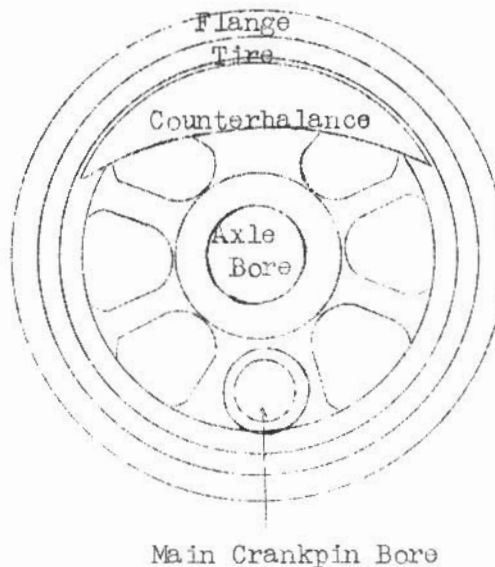

Figure 21
1. THE WHEEL (Figure 21) contains the bore for the axle (#2), counterweight (#3), the crank pin bore (#4) and the tire (#5) is fitted tight around the wheel.